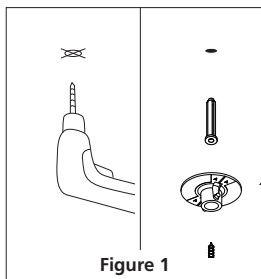

Figure 1
2. To ensure aesthetic alignment of the alarm with the hallway or wall, the "A" line on the attachment stud should be parallel with the hallway when ceiling mounting, or vertical when wall mounting. See Figures 1 and 2.
3. Drill a hole through the pencil mark and use the enclosed screw and anchor (see Figure 1) to secure the attachment stud. Use 1/4" (0.25") drill bit for anchor holes. Align the smoke/CO alarm with the attachment stud and rotate clockwise (right) until the unit is aligned. Screw and anchor accessories are supplied.